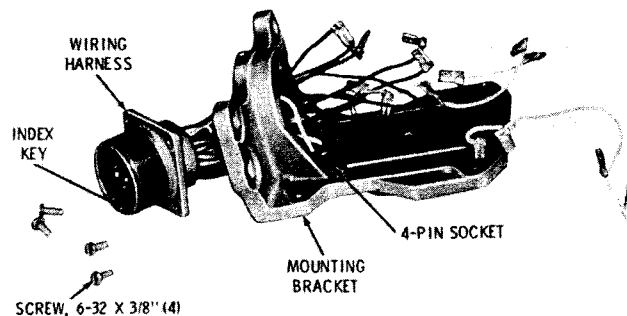

Fig. 4-13. Mounting bracket and switch wiring harness
(25) Remove the four screws that retain the wiring harness (fig. 4-13). Remove the wiring harness from the mounting bracket.
(26) Remove O-ring 29 (foldout 2) from the wiring harness connector body.
(1) If the 4-pin socket (female) was removed from the mounting bracket, install a new socket (fig. 4-13). The socket is item 36 (foldout 2). Push the socket into the flat side of the mounting bracket until it is flush with the adjacent area. Note the projection on the socket body that indexes with a notch in the mounting bracket.
(2) Install a 1 1/2-inch O-ring over the wires and onto the shoulder of the main wiring harness. Insert the wires through the bottom of the mounting bracket (fig. 4-13). Push the 16-pin connector into the mounting bracket, with the index key toward the flat side of the mounting bracket (fig. 4-5). Retain the connector with four 6-32 x 3/8-inch screws.